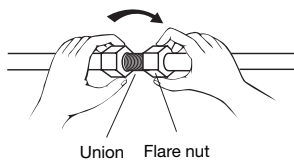

Figure 3
- Connect the tubes by aligning the centers of both flares and turn the flare nuts by hand 3 or 4 turns (Figure 3).